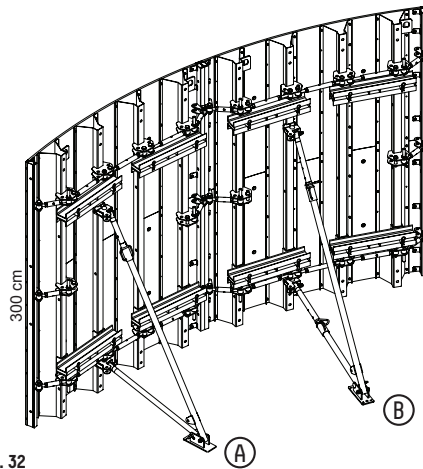
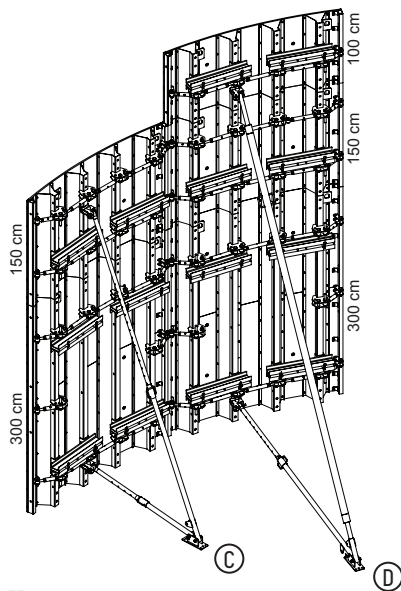
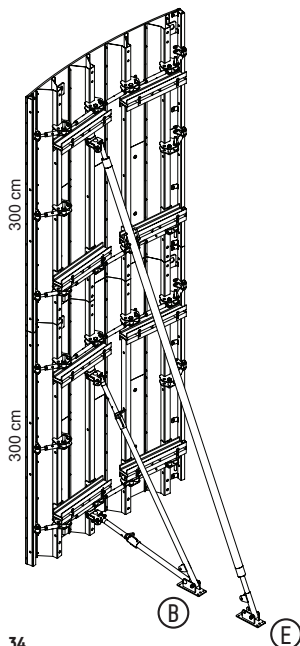

Fig. 32
Fig. 33
Fig. 34
- **Strut length up to 450 cm (configuration type A, B and C in Fig. 32 and Fig. 33):**
- **Strut length between 530 - 700 cm (configuration type D and E in Fig. 33 and Fig. 34):**